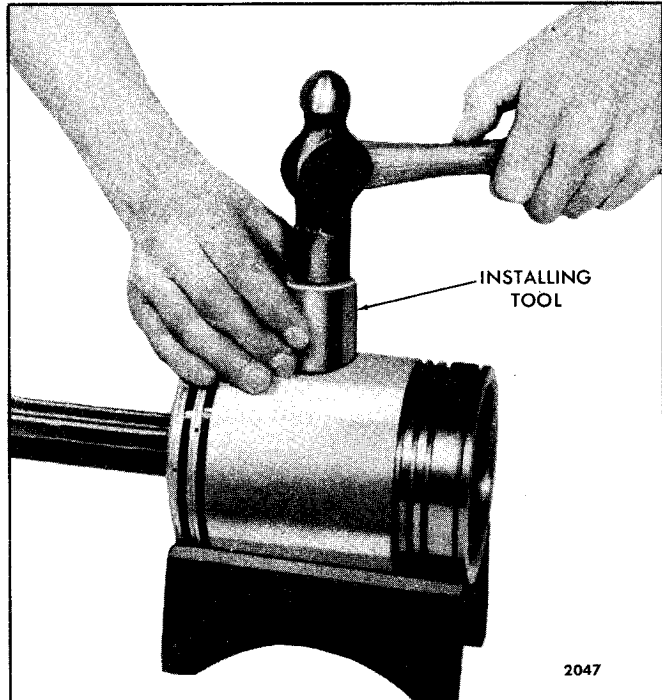

Fig. 8 - Installing Piston Pin Retainer using Holder J 1513-02
1. Place the "N" piston in the holding fixture (Fig. 8).